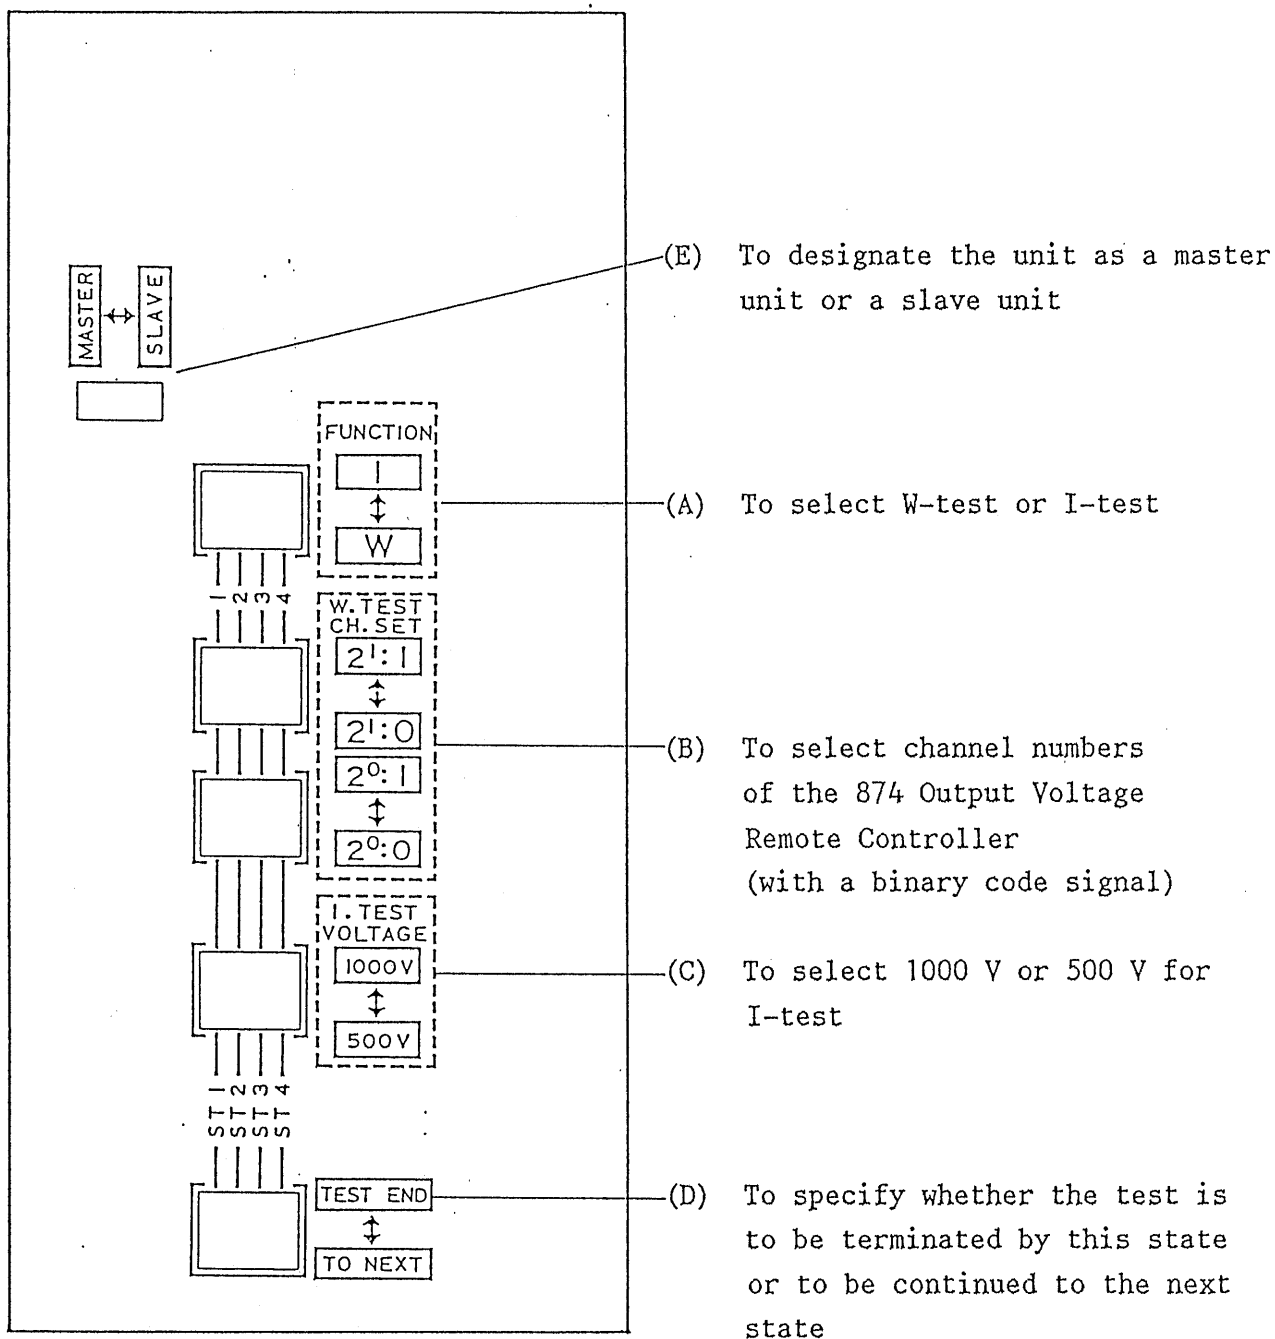

Figure 4.1 Layout of Switches on PC Board
(1) The conditions of test which can be preset with the 916 W/I Controller are as follows:
- ① To select W-test (withstanding voltage test) or I test (insulation resistance test) for each of states 1 - 4.
- ② When W-test is selected by ①: To specify one of the channels (CHO - CH3) of the 874 Output Voltage Remote Controller in which test voltages are preset.
- ③ When I-test is selected by ①: To select 1000 V or 500 V for the insulation resistance test voltage.
- ④ To specify the final test state.
(2) The conditions of test can be preset in the following procedure:
- ① Remove the casing of the 916 W/I Tester by removing two side screws and four bottom screws. Five DIP switches and one slide switch are installed on the internal PC board as shown in Figure 4.1. Set the conditions of test with these switches.
- ③ To select the W-test for state 1, set the FUNCTION switch ((A) in Figure 4.1) to W; to select the I-test, set it to I.
- ④ When the W-test is selected for state 1, specify a channel or channels (up to four channels) of the 874 Output Voltage Remote Controller in which test voltages have been preset. (Channel numbers 1 - 3 can be selected in any order. For simplicity, it is best to select them in the order of 1-2-3.)
- ⑤ When the W-test is to be repeated, if the test voltage is the same, it is not necessary to repeat setting of the test voltage in the 874. If the required test voltage has been preset in one of the channels of the 874, the voltage can be called out simply by specifying the channel number.
- ⑥ The voltage preset in the 874 can be called out by specifying the channel number with the W-TEST CH SET switches ((B) in Figure 4.1). The channel number can be specified with a binary code signal as shown in the following table.
- ⑧ When the I-test is selected for test state 1, select 1000 V or 500 V for the insulation resistance test voltage with the I-TEST VOLTAGE switch ((C) in Figure 4.1).
- ⑨ When the I-test is selected for test state 1, specifying of channels of the 874 for W-test output voltages mentioned in ⑥ may be left undone. Although the currently selected channel is specified for the test, no withstanding voltage test is executed and the insulation resistance test alone is executed.
- ⑩ The TEST END/TO NEXT switch ((D) in Figure 4.1) is to specify the end of a series of test states. For example, if the switch is set to TO NEXT when in test state 1, the test advances to test state 2; if it is set to TEST END, the test terminates by test state 1.
- ⑪ The above procedure is for test state 1. Perform identical procedure for the subsequent test states also.
- ⑫ When the test is required to be preset up to test state 4, be sure to set the TEST END/TO NEXT switch of test state 4 to TEST END. Note that the system will not perform correctly unless the switch is set to TEST END.
- ⑬ When the system has only one unit of the 916 W/I Controller, set the MASTER/SLAVE switch to MASTER.
(1) Up to four test states can be handled by one unit of 916 W/I Controller. Up to eight test states can be handled by two units of 916 W/I Controllers connected in a master-slave mode.
(2) Set a master unit and a slave unit as follows:
- ① Designate one of the two units as a master unit and the other as a slave unit.
- ② Set the MASTER/SLAVE switch ((E) in Figure 4.1) of the master unit to MASTER and that of the slave unit to SLAVE.
(3) Set the contents of test as follows:
- ① Set the contents of test states 1 - 4 with the master unit.
- ② Set all TEST END/TO NEXT switches ((D) in Figure 4.1) of the master unit to TO NEXT.
- ③ Set the contents of test states 5 - 8 with the slave unit, by assigning nominal state numbers 1 of the slave unit to actual state number 5 of the test, and nominal state numbers 2/3/4 to actual state numbers 6/7/8, respectively.
- ④ If the required number of states is less than eight, set the TEST END/TO NEXT switch of the final one of the required states to TEST END.
- (4) The test voltage for W-test can be set with the TEST VOLTAGE dial on the front panel of the 871. Since the 916 is not required to specify any channel numbers of the 874, leave the CHANNEL SELECT DIP switches ((E) in Figure 4.1) in any arbitrary positions.
- (5) Other items, including the performance specifications, are identical with the case that the 874 is included.